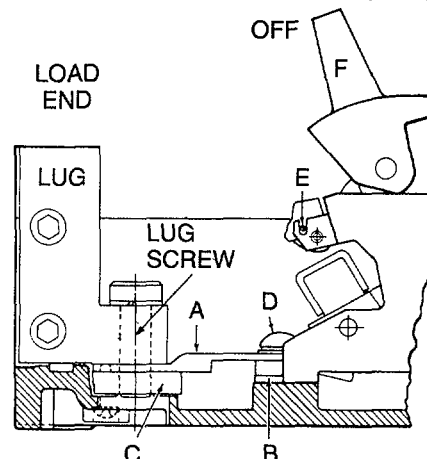

Figure 3
6. Install connection straps A, Figure 3, locating smaller hole over terminal B. Secure with screws D, lockwashers and plain washers provided and in that order.